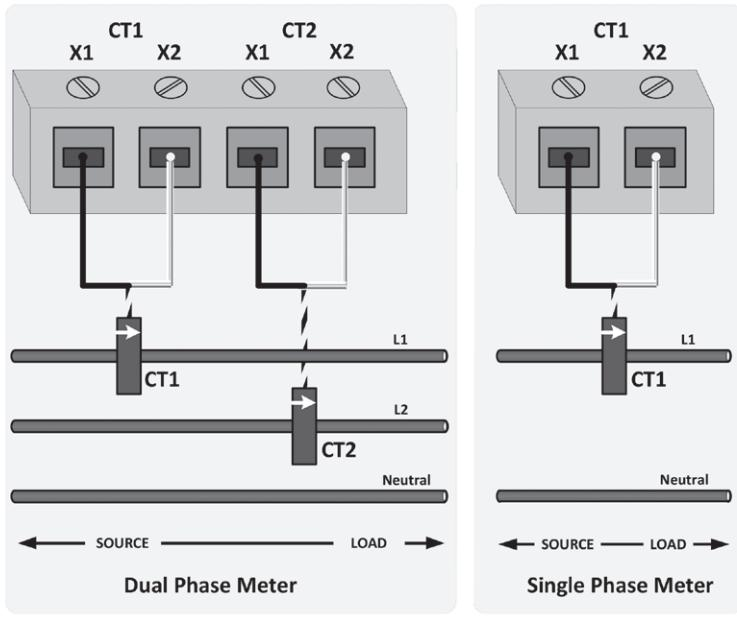

Figure 6 - CT Wiring Diagram
- Current and voltage inputs must be installed 'in phase' for correct readings. As shown in Figure 6, CT1 needs to monitor the same phase as the voltage connected to the meter on L1 and CT2 needs to monitor the same phase as the voltage connected to the meter on L2. The CTs must be connected between line and load, not on the voltage wires that lead to the meter.
3. Connect the CT leads to the appropriate terminals; see wiring diagrams (Figure 6) for correct CT orientations and connections. A list of the CT connections is given in Table 3.
- e. Repeat for remaining conductor for two phase applications, as shown in Figure 6.
5. For Solid Core CTs: With power turned off, disconnect each monitored conductor one at a time and slide on appropriate CT, ensuring the CT is correctly oriented as shown in Figure 6. Reconnect the conductors. Connect the CT wires to the meter inputs as described in Table 3.